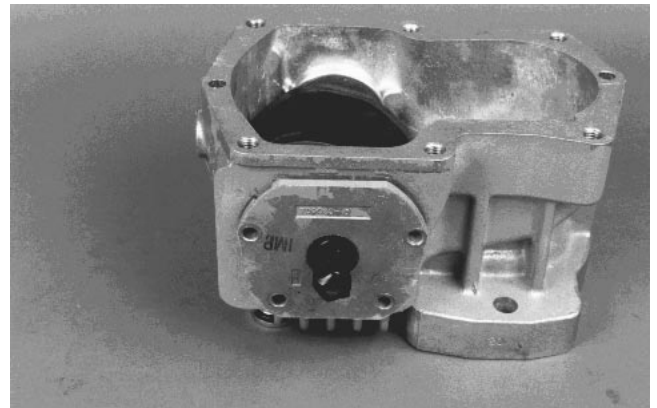

Figure 60
5. Install trunnion seal cover with o-ring, seal and trunnion bearing into housing and over swashplate trunnion (see Trunnion Seal Replacement). Wrap end of swashplate control shaft with thin plastic to prevent damage to seal lip during installation (Fig. 60).